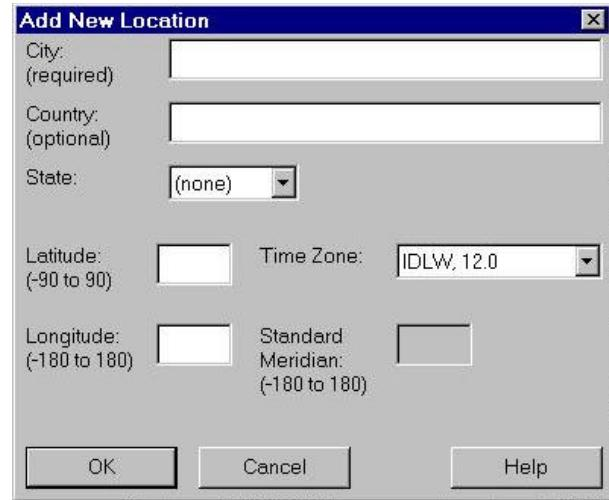

Figure 9. The Add New Location Dialog box
51. In the “Add New Location” dialog box (Figure 9), specify a city name. Country and state are optional fields. Then input the latitude and longitude of the location you want to simulate and pick a corresponding time zone from the pull down menu. Be aware of whether your time zone is observing Daylight Saving Time. If not listed, pick “other” from the list and then enter the Standard Meridian for that location. See the *Desktop Radiance* User Manual for more information.
55. The Simulation Manager dialog box (Figure 9) should appear momentarily. Wait for the interactive window to appear. This can take a few seconds for small scenes or up ten minutes for very complex scenes.